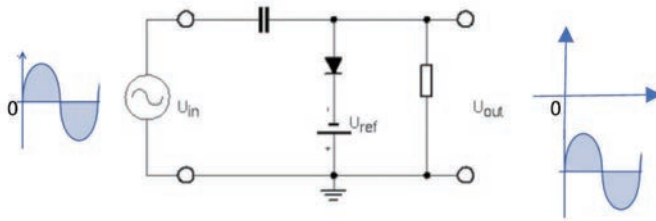

Figure 3.41 Biased clamper
6. Determine the peak value of the output voltage and the PIV for Figure 3.41, if the turns ratio of the transformer is 0.5 and the peak input voltage is 110 V.